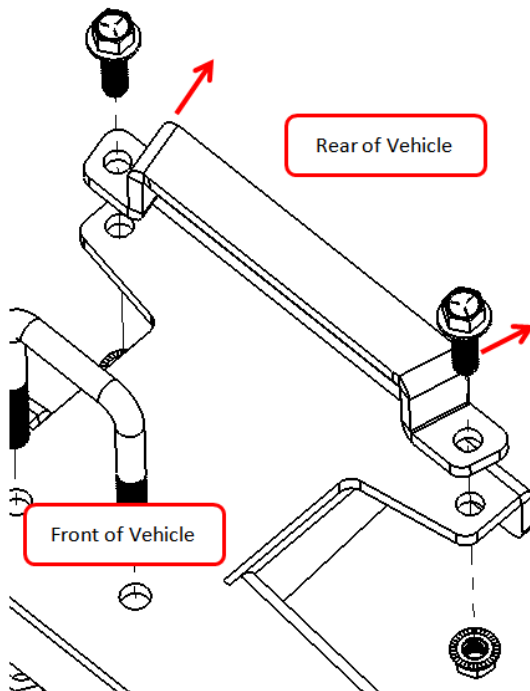

Figure 3
2. Position the Rear Buckle over top of the Wildcat frame as shown in Figure 3 & 4.